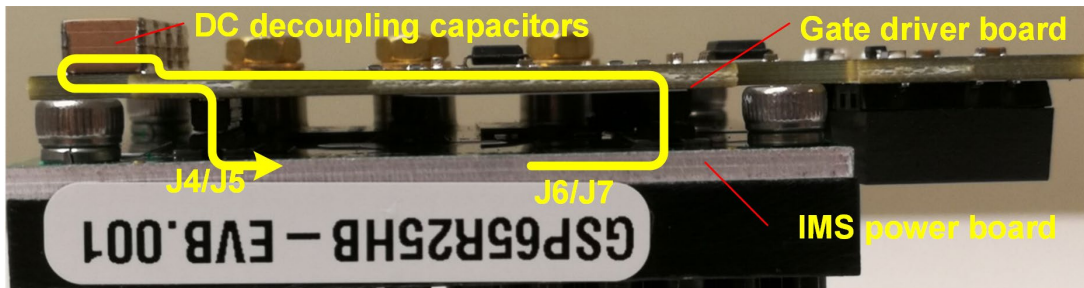

Figure 9 - Cross section view of IMS assembly showing the power Loop path
- While a large copper area is preferred to maximize heat spreading and handle high current, the area of copper at the switching node (high dv/dt) needs to be minimized to reduce the parasitic coupling capacitance to the metal substrate. An IMS board with thicker dielectric layer (100um) is chosen on this design to further reduce this effect. Refer to Figure 9 for more detail.